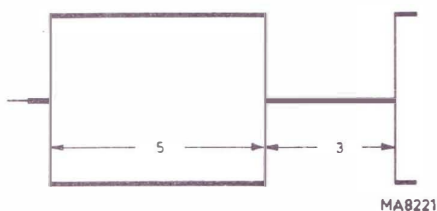

Fig. 29. Functioning of the blanking of the fly-back
- Determine the duty cycle: 0.4 ± 0.1 (Fig. 29)
- The oscilloscope must show the picture illustrated in Fig. 29.